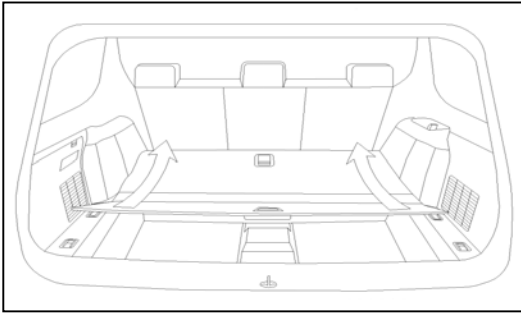

Figure 3
- a) Lift load floor handle and remove from vehicle see figure 3